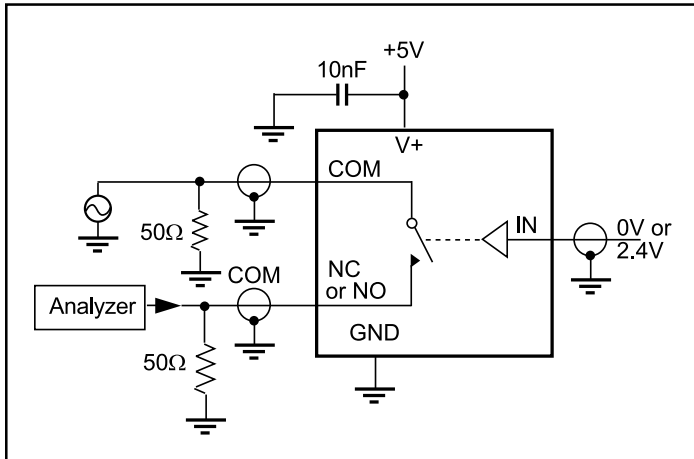

Figure 3. Off Isolation
- Off Isolation = 20log₁₀ [V_{COM} / (V_{NO} or V_{NC})]. See Figure 3.